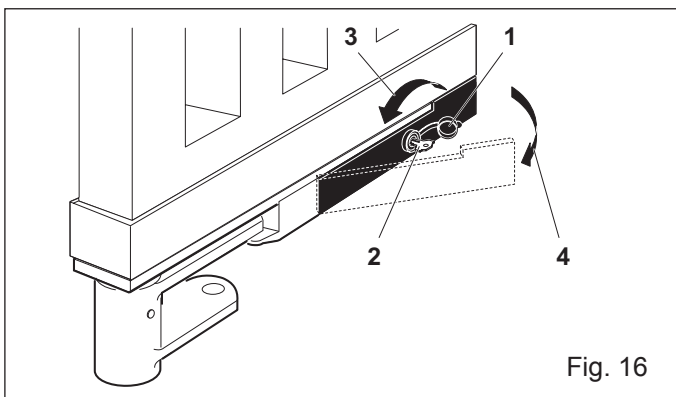

Fig. 16
1. Open the lid of the lock (Fig. 16 - Ref. 1).
2. Insert the release key in the lock (Fig. 16 - Ref. 2).
3. Turn the key in the direction of the post, as far as it will go (Fig. 16 - Ref. 3).
4. Pull the lever out (Fig. 16 - Ref. 4).